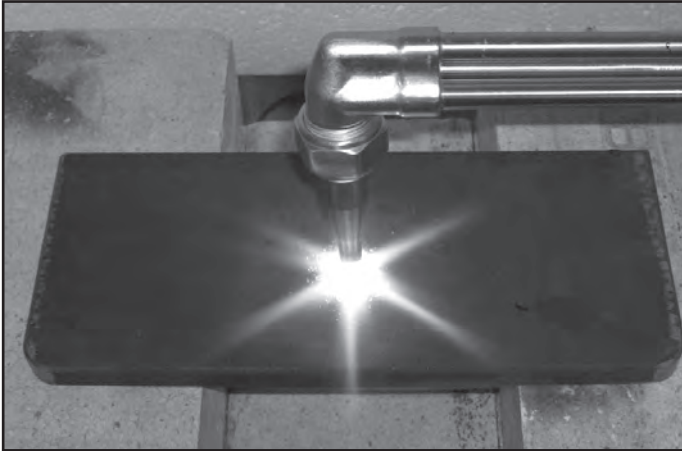

Figure 20: Starting to Pierce
1. Preheat a small spot on the base metal to a bright cherry red kindling temperature (see Figure 20).